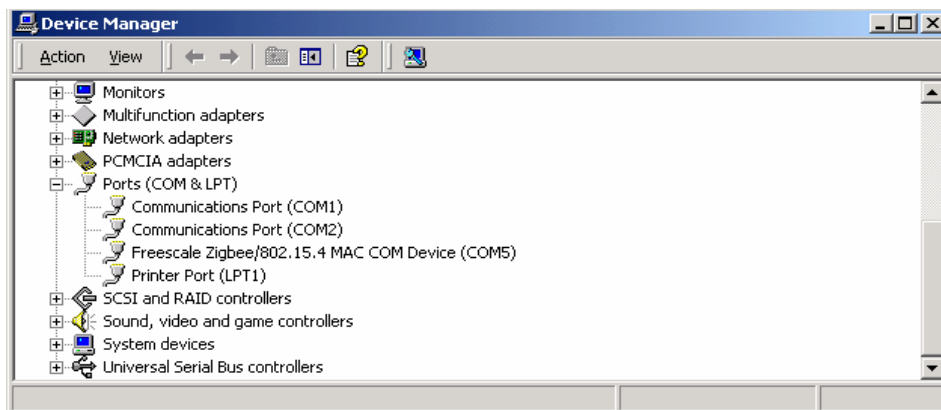

Figure 20. COM Port Determination in Device Manager
- b) Select the Hardware tab, and click the Device Manager button. The Device Manager window appears as shown in Figure 20.
- d) As shown in Figure 20, the COM Port chosen by the system is titled `Freescale ZigBee/802.15.4 MAC COM Device (COM5)`.